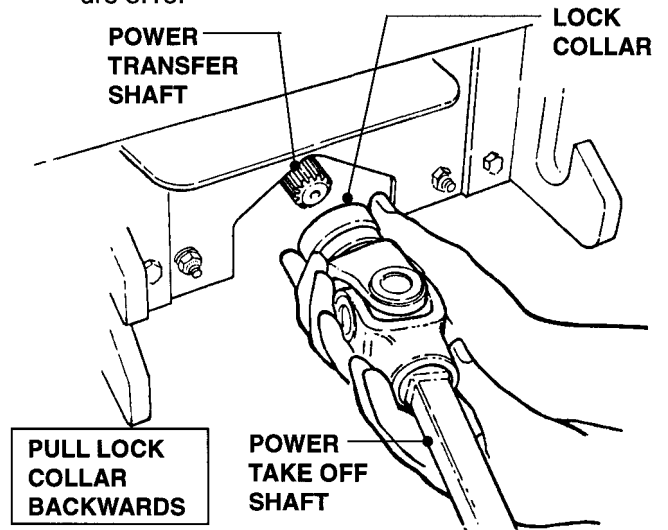

FIGURE 8.16
- G. Pull Lock Collar back and slide Power Transfer Shaft away from Power Take Off (PTO) Shaft. See Figure 8.16.